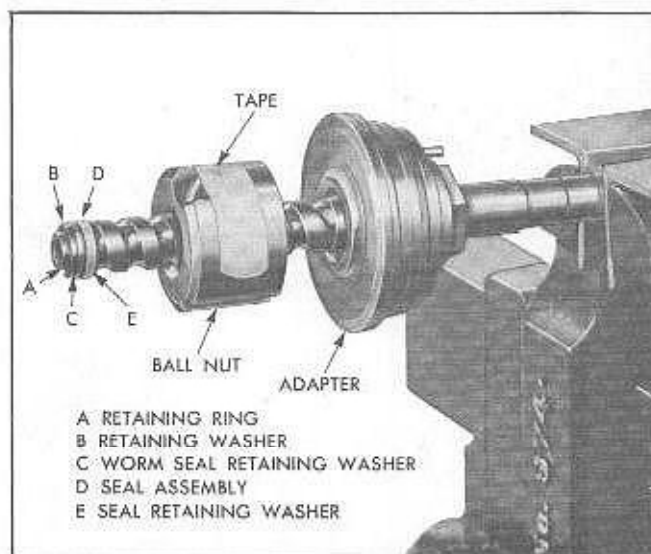

Fig. 9-53 Worm Shaft, Seal and Washers Installed
6. Install seal retaining washer, seal assembly, worm seal retaining washer, retaining washer, and retaining ring (Fig. 9-53).